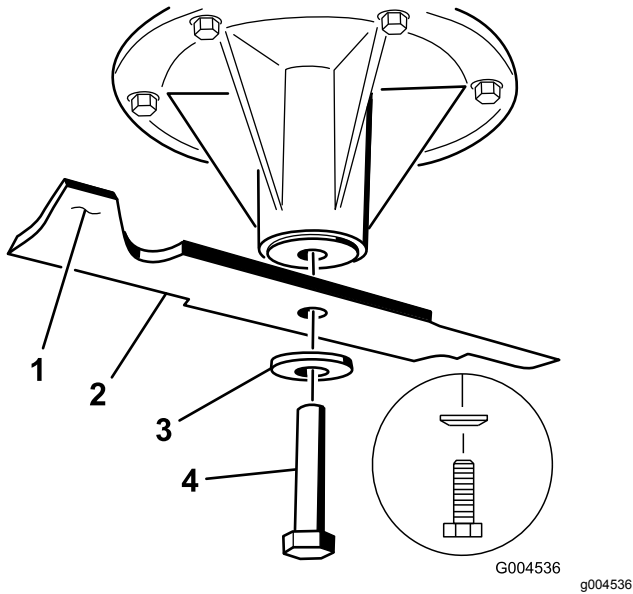

Figure 96
1. Install the blade onto the spindle shaft (Figure 96).
2. Install the spring disk and blade bolt (Figure 96).